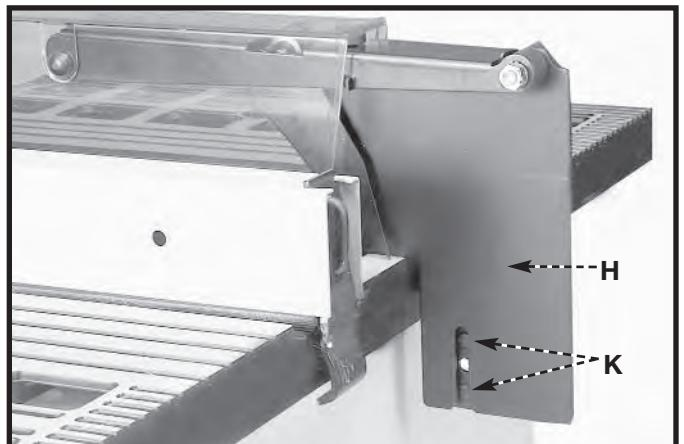

Fig. 13
- Position the splitter (H) Fig. 13 against the splitter support bracket, making certain the two protrusions (K) on the splitter support bracket are inside the slot of splitter (H).